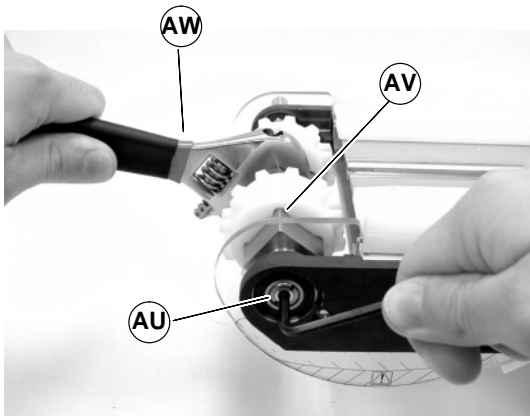

Figure 50
7. With 4mm hex-key wrench, tighten pulley taper screw (AU of Figure 50) to 35 in-lb (4 N-m). Steady pulley (AV) with wrench (AW).